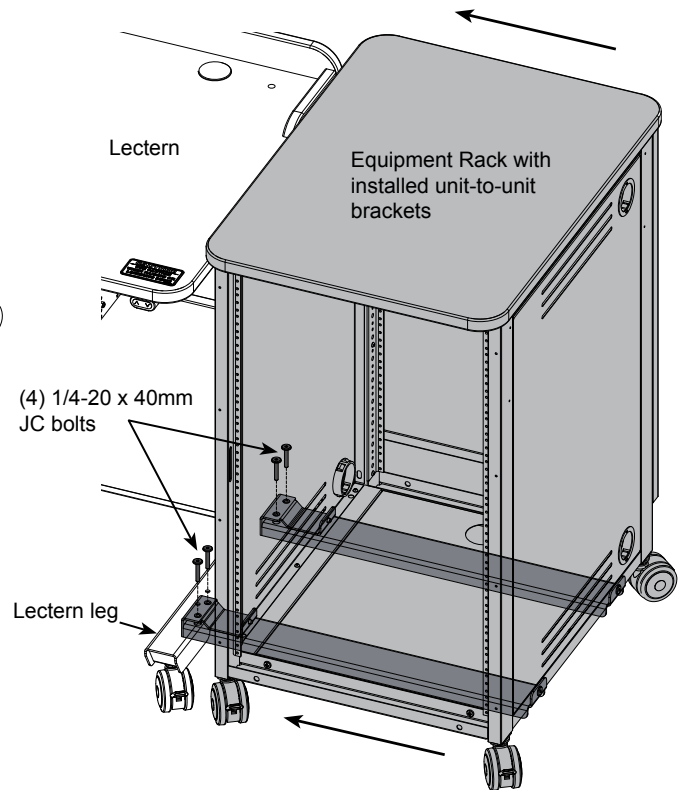

Figure 2
- Install (4) 1/4-20 x 40mm JC bolts through the top of the lectern leg and tighten securely. **Figure 2.**